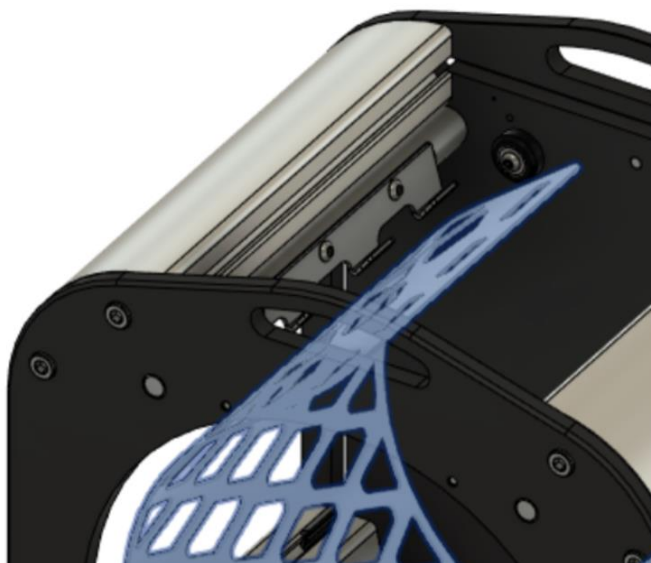

Fig. 19
10. Unhook the cradle from the both sets of cradle hooks (see Fig.19).